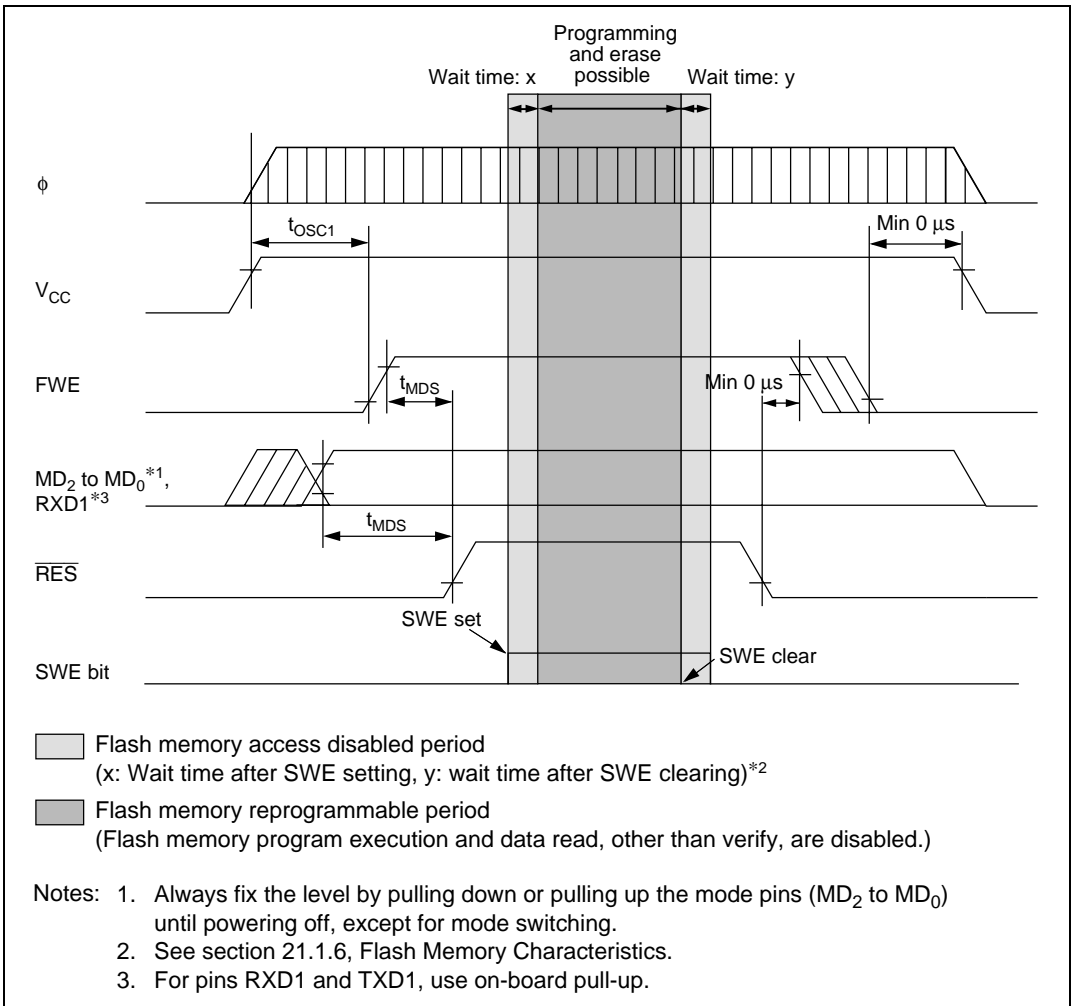

Figure 18.18 Powering On/Off Timing (Boot Mode)
2. Notes on powering on/powering off (see figures 18.18 to 18.20)
3. Notes on FWE pin High/Low switching (see figures 18.18 to 18.20)